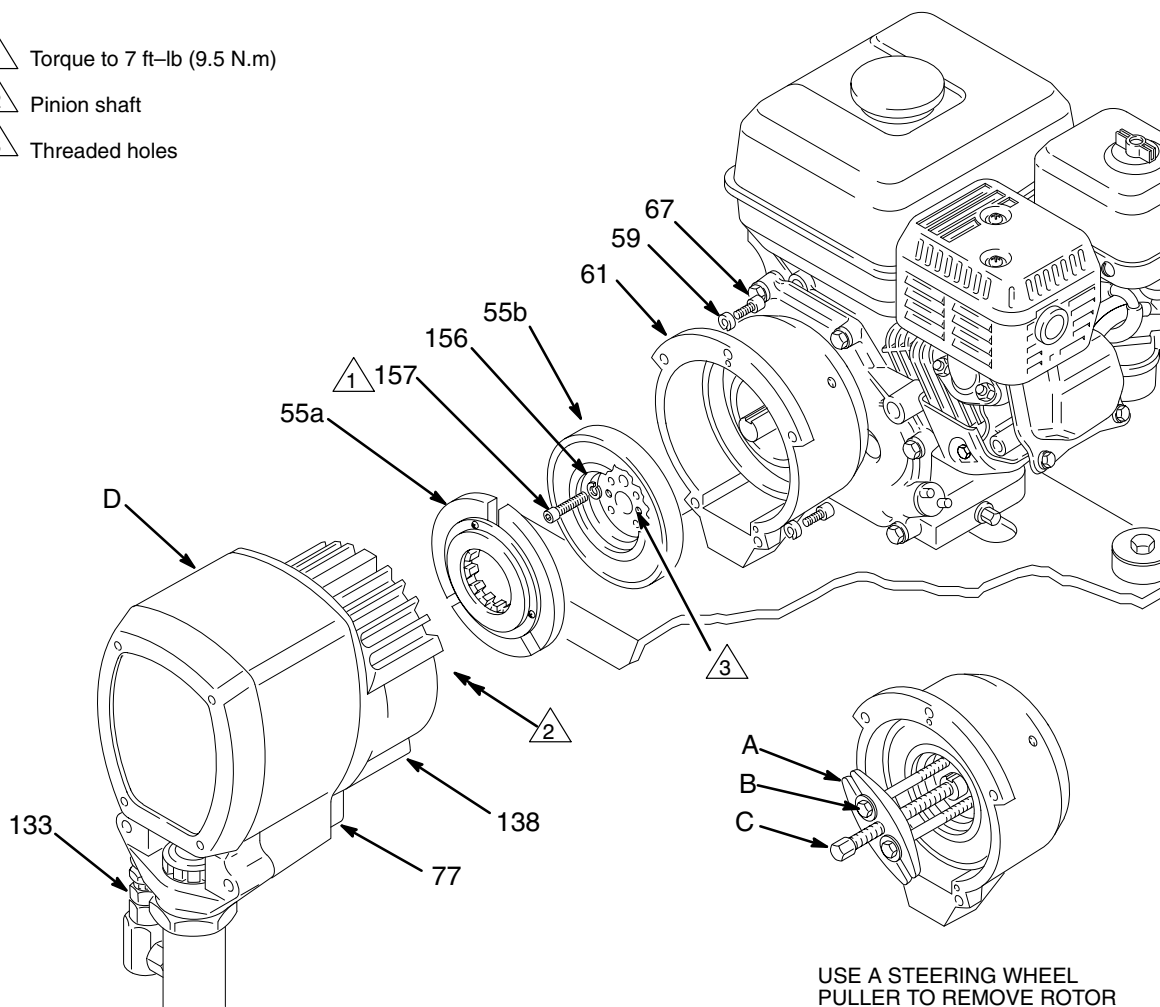

Fig. 40
2. Disconnect the hose (133) from the displacement pump.
3. Remove the bottom two screws (67) from the clutch housing (61) and then remove the remaining three screws (67).
4. Tap lightly on the back of the drive housing (77) with a plastic mallet to loosen the assembly (D) from the clutch housing (61). Pull the assembly away; the armature (55a) will come with it.
6. Remove the four socket head capscrews (157) and lockwashers (156). Install two of the screws in the threaded holes in the rotor (55b). Alternately tighten the screws until the rotor comes off. See Fig. 40.